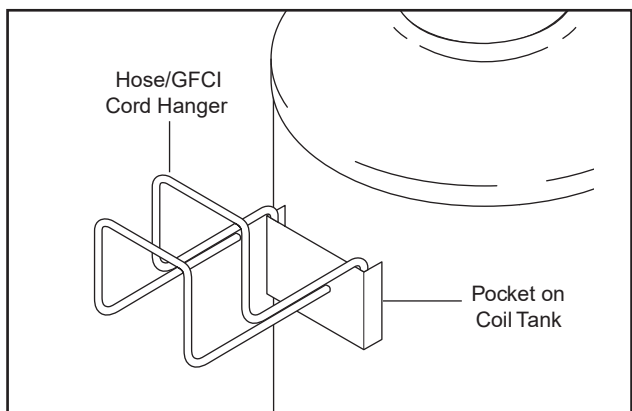

Figure 1 - Hose-GFI Cord Hanger
1. Install Hose/GFCI Cord Hanger on coil tank as shown in Figure 1.